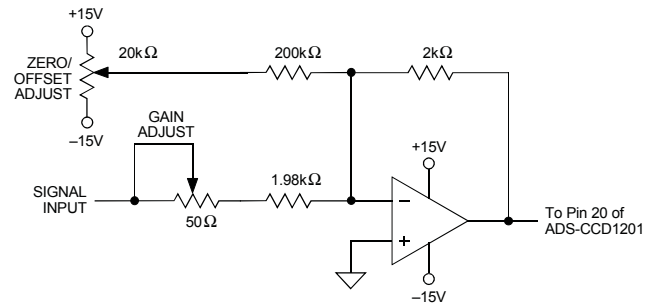

Figure 2. ADS-CCD1201 Calibration Circuit
Bypass all power supplies, as well as the REFERENCE OUTPUT (pin 21), to ground with 4.7µF tantalum capacitors in parallel with 0.1µF ceramic capacitors. Locate the bypass capacitors as close to the unit as possible. If the user-installed offset and gain adjusting circuit shown in Figure 2 is used, also locate it as close to the ADS-CCD1201 as possible.
- ADS-CCD1201 achieves its specified accuracies without external calibration. If required, the device's small initial offset and gain errors can be reduced to zero using the input circuit of Figure 2. When using this circuit, or any similar offset and gain calibration hardware, make adjustments following warmup. To avoid interaction, always adjust offset before gain.
CALIBRATION PROCEDURE (Refer to Figures 2 and 3)
Any offset and/or gain calibration procedures should not be implemented until devices are fully warmed up. To avoid interaction, offset must be adjusted before gain. The ranges of adjustment for the circuit of Figure 2 are guaranteed to compensate for the ADS-CCD1201's initial accuracy errors and may not be able to compensate for additional system errors.
All fixed resistors in Figure 2 should be metal-film types, and multi-turn potentiometers should have TCR's of 100ppm/°C or less to minimize drift with temperature. In many applications, the CCD will require an offset-adjust (black balance) circuit near its output and also a gain stage, presumably with adjust capabilities, to match the output voltage of the CCD to the input range of the A/D. If one is performing a "system I/O calibration" (from light in to digital out), these circuits can be used to compensate for the relatively small initial offset and gain errors of the A/D. This would eliminate the need for the circuit shown in Figure 2.